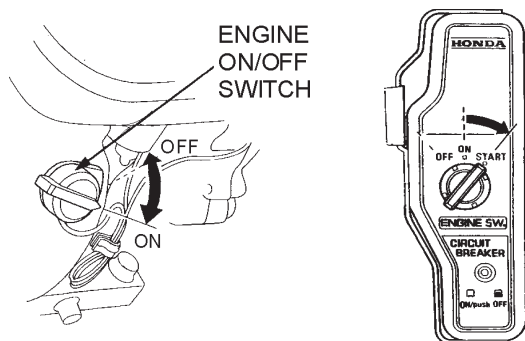

Figure 14. Engine ON/Off Switch
2. Place the **Engine ON/OFF switch** (Figure 14) in the **ON** position.